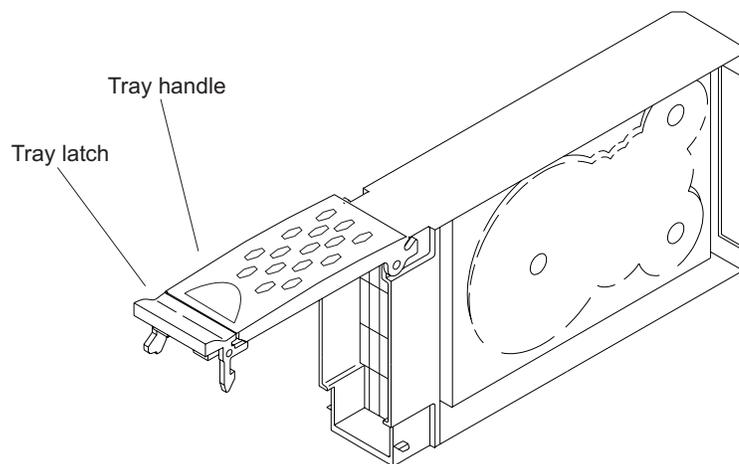

Figure 44. Drive CRU handle
- b. Pull the handle on the tray out so that it is in the open position, as shown in Figure 44 on page 76.
- a. Release the latch on the drive CRU by pinching together the blue line on the tray latch and the finger hole on the tray handle, as shown by the arrow in Figure 44 on page 76.